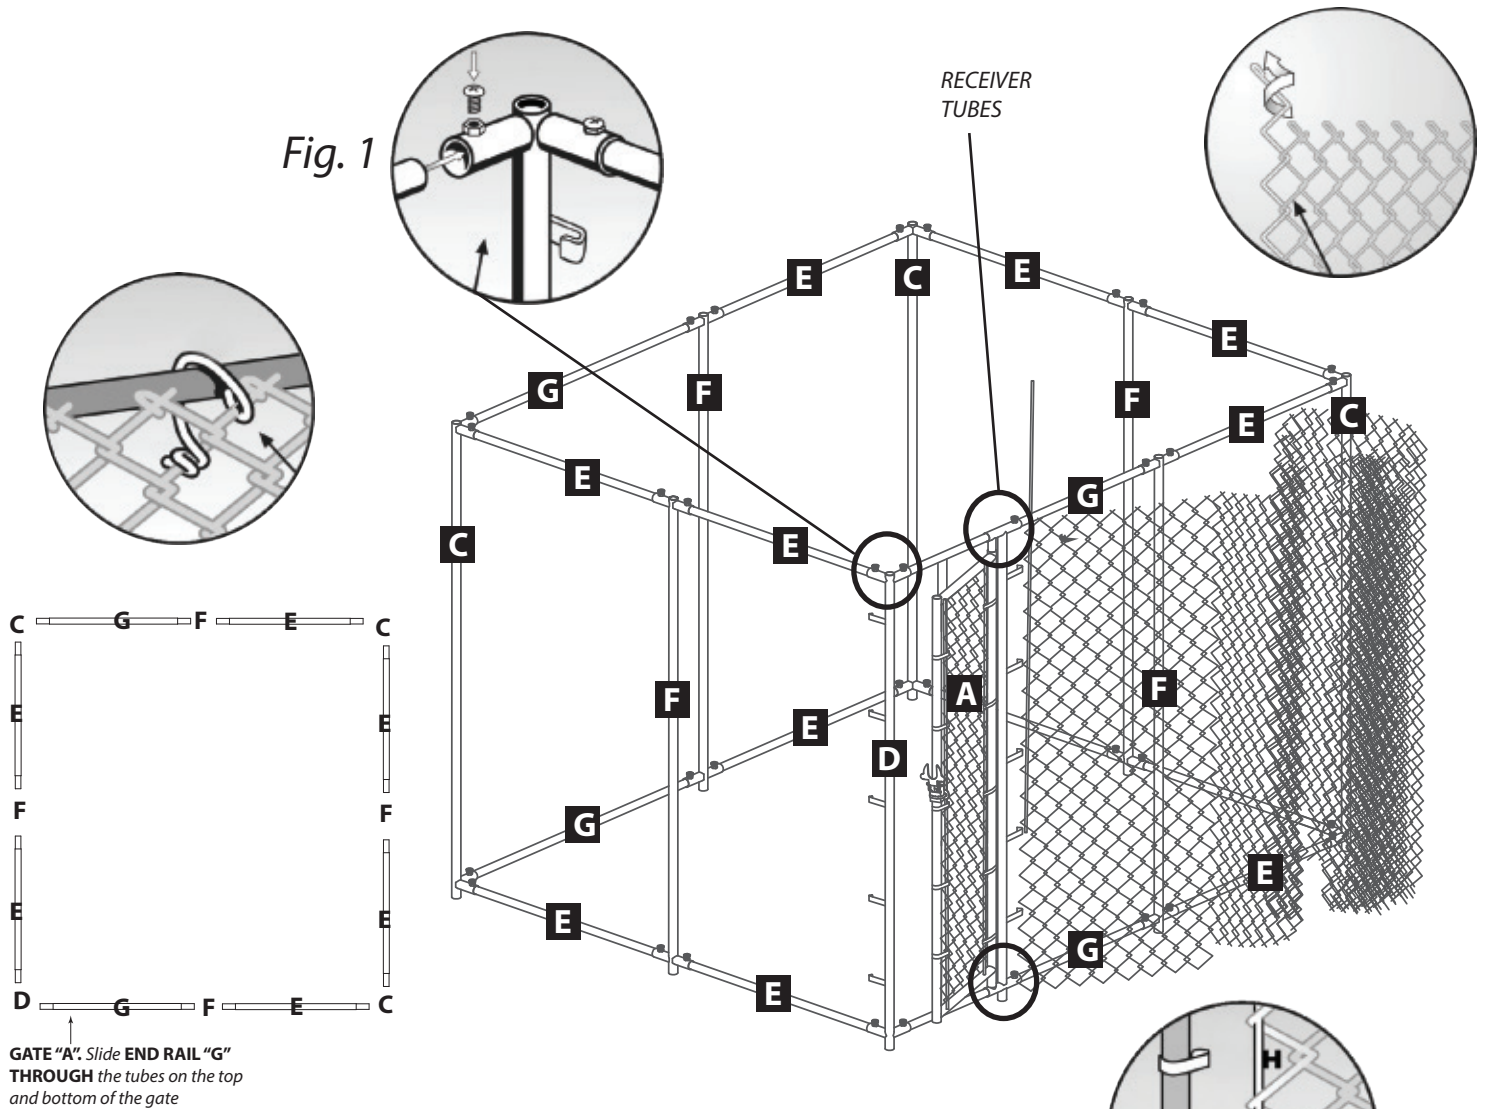

Fig. 1
(Still laying face down) Attach **CORNER STAND WITH ROD CLIPS (D)** to the upper and lower end rails, on the latch side of the gate (figure 1). Tighten set screws. *Be careful not to over-tighten, as this may cause damage to the welded nut.*